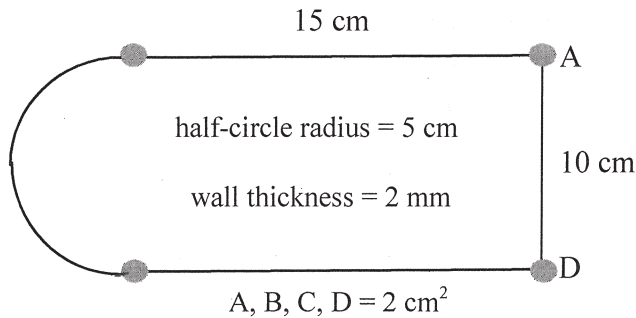

Figure 5
- b) The webs of the section indicated in Figure 5 are ineffective in bending. The given section is subject to a vertical shear force 30 kN acting through the shear centre. Obtain the shear flow pattern and find the shear center location.
16. a) i) The section indicated in Figure 5 is now subject to a pure torque of 700 Nm. Determine the shear stress distribution and cell twist. Use $E = 200 \text{ GPa}$. For a given torque, can the cell twist be decreased by using a stronger material – justify your answer. (7)
- ii) Show that the shear flow in the walls of a closed thin-walled tube subject to pure torque will be constant along the perimeter. (4)
- iii) Why is the determination of shear flow in the walls of a multi-cell tube subject to pure torque a statically indeterminate problem? (4)